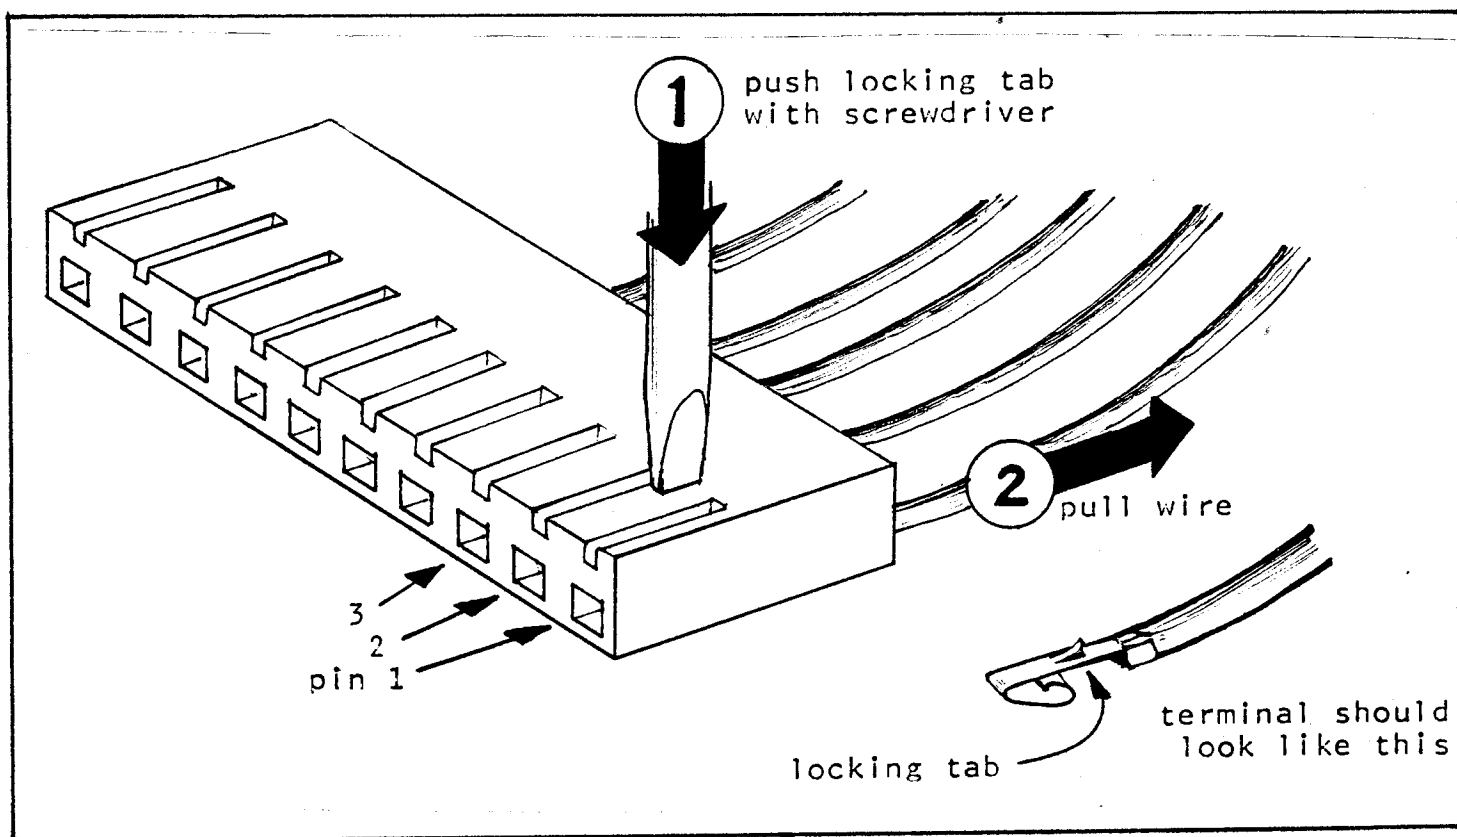

FIG. 1-13 REMOVING A WIRE FROM J401
- If the old cable is still attached to the computer by a shielded wire in pin 11, remove this wire from the connector as shown in fig. 1-13. The old cable is now free of the machine; set it aside. Remove the yellow wire from pin 11 of both ends of the new cable. Plug the shielded wire into pin 11 of one end of the new cable. The new cable should now be exactly like the original one, only longer.